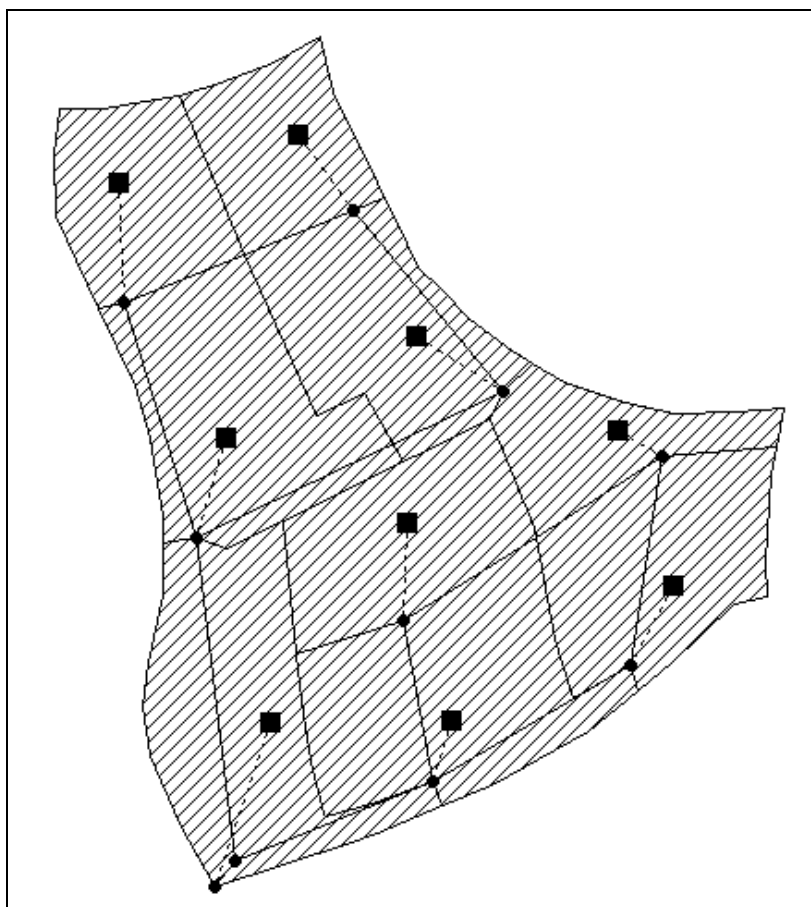

Figure 8-1 Cougar Estates Storm Drain Schematic from EPA SWMM
1. Your EPA SWMM window should display an image similar to that shown in Figure 8-1.